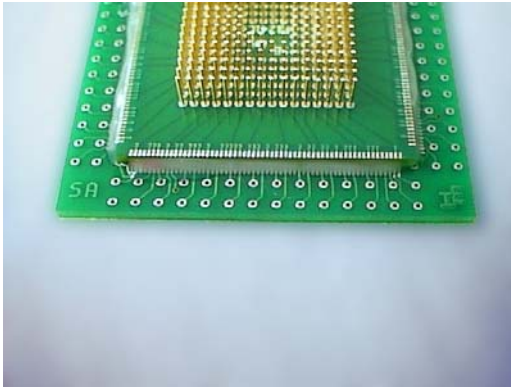

Figure 4: Applying Flux
(4) Apply a generous amount of flux along the side of the adapter PCB as shown in Figure 4.
(5) Using a very fine tipped soldering iron (spade tip 0.03" diameter and 60° chisel angle), add solder to the soldering tip using solder wire (low temp, 63Sn/37Pb) to form a blob of solder approximately 1/8" diameter on its tip. Use a microscope or magnifying lens, if available, to view the process while soldering.